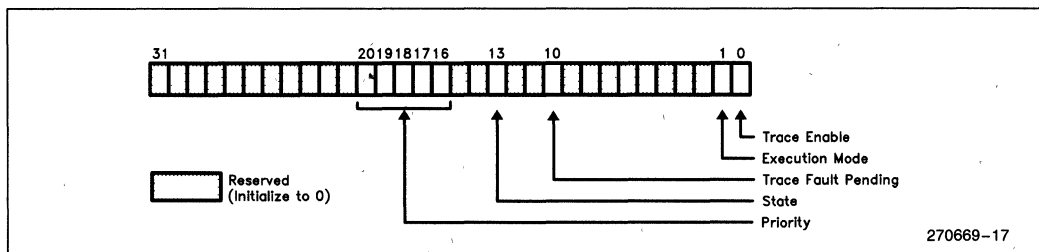

Figure 3-5. Process Control Register
The *Process Control (PC) Register* (Figure 3-5) provides access to process state information. The function for the PC register is described below.